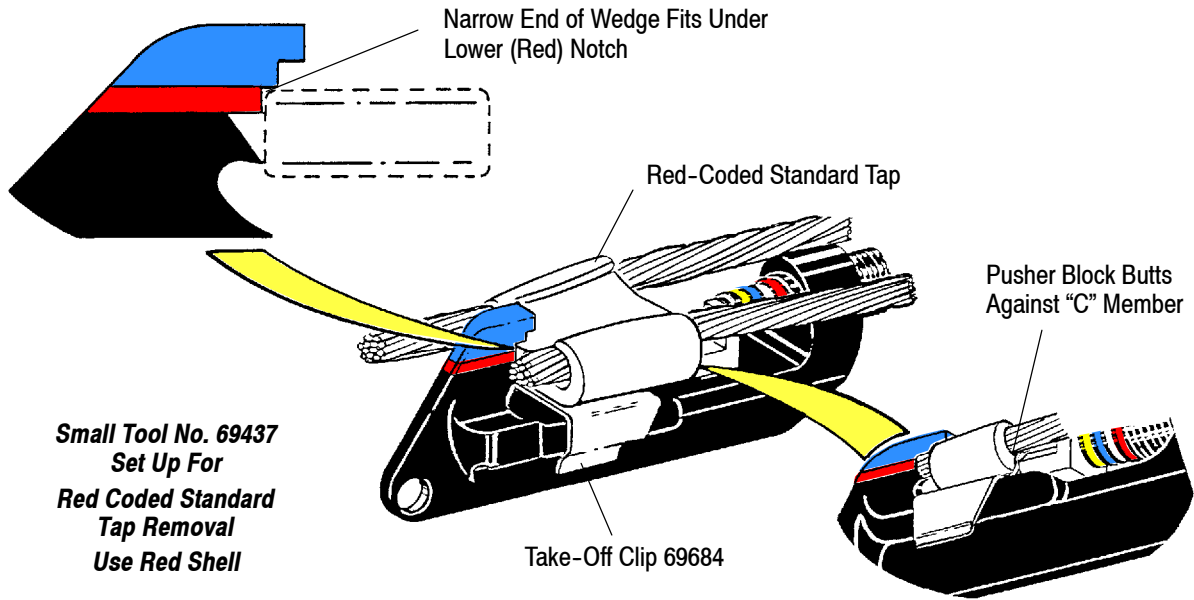

Figure 31
Use take-off clip No. 69684 and red shell for removal of small red coded taps. Narrow end of wedge fits under lower red notch of tool and pusher block butts against “C” member as shown in Figure 31.
1. Hook AMPACT tool over tap assembly with **OPEN SIDE OF “C” MEMBER FACING AWAY FROM TOOL PLATFORM**, as illustrated in Figures 31 through 34.
- Wedge must be in the proper notch of the tool head, and take-off clip must be in proper position. Refer to Figures 31 through 34.